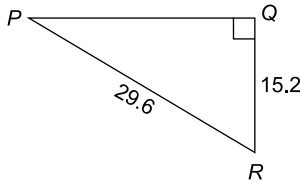

Figure RT1.2
- In triangle PQR in Figure RT1.2, find angle P in decimal form, correct to 2 decimal places